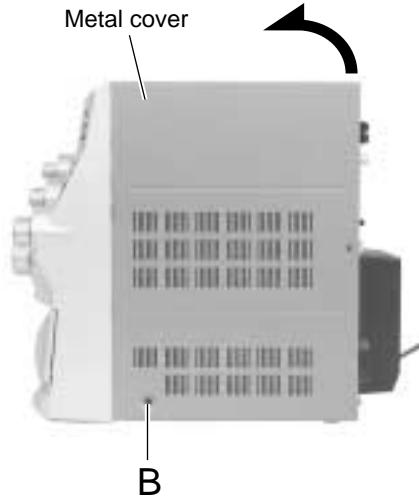

Fig.2
4. Solder is put up before the card wire is removed from connector CN601 on the CD servo control board as shown in Fig. 2. (When the wire is removed without putting up solder, the CD pick-up assembly might destroy.)